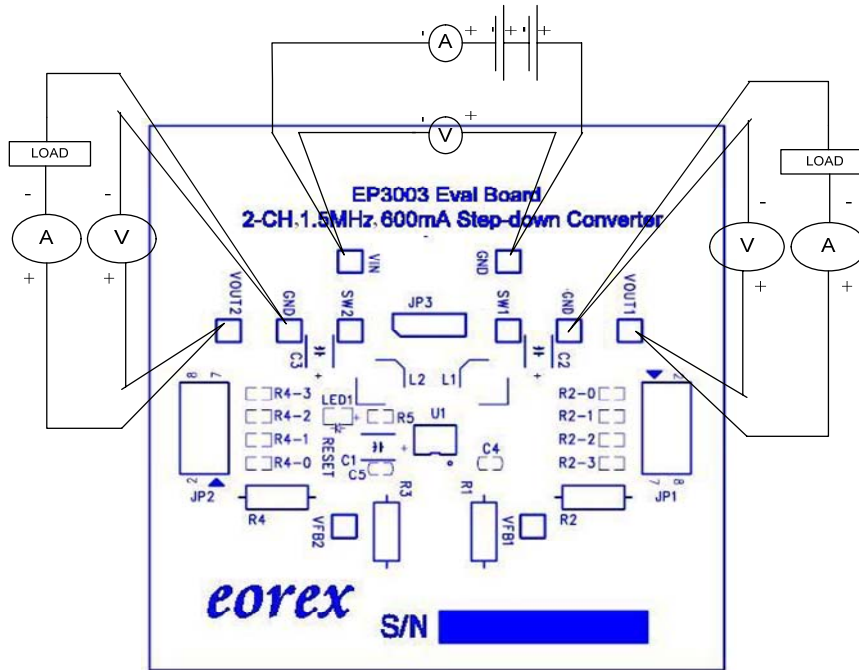

Figure 1. Proper Measurement Equipment Setup
Demonstration circuit EP3003 EVB is easy to set up to evaluate the performance of the EP3003. Refer to Figure 1 for proper measurement equipment setup and follow the procedure below:
1. Connect the input power supply to the V_{IN} and GND terminals on the up-side of the board. Do not hot-plug V_{IN} or increase V_{IN} over the rated maximum supply voltage of 5.5V, or the part may be damaged. Connect the loads between the V_{OUT} and GND terminals on the right-side and left –side of the board. Refer to figure 1 for the proper measurement equipment setup.